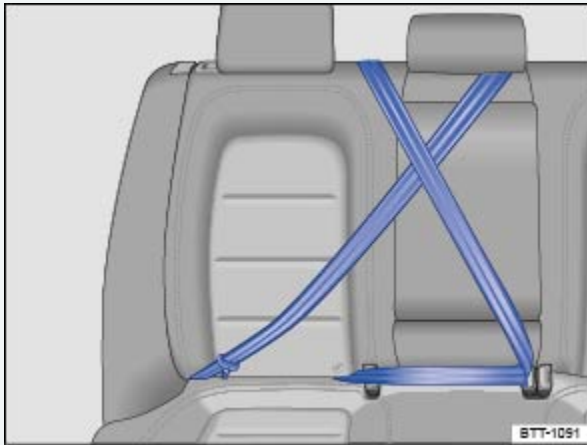

Fig. 76 Keep unused safety belts away from children in child restraints.
You must take special precautions when installing a LATCH/UCRA child restraint behind the front passenger or driver seats. Always route the center safety belt and the unused safety belt for the seating position where the child restraint is being installed securely out of the child's reach. Securing the safety belts will help prevent a child from playing with an unused safety belt and becoming entangled with it ⇒ Fig. 76.
- Buckle the safety belt ⇒ *Fig. 76*.
LATCH/UCRA lower universal anchorages behind the front passenger seat or behind the driver seat. Always route the center safety belt and the unused safety belt for the seating position where the child restraint is being installed securely out of the child's reach. Securing the safety belts will help prevent a child from playing with an unused safety belt and becoming entangled with it ⇒ Using a child restraint on the rear seat, ⇒ Fig. 76.
You must take special precautions when installing a child restraint with the vehicle safety belt or with LATCH/UCRA lower universal anchorages behind the front passenger seat or behind the driver seat. Always route the center safety belt and the unused safety belt for the seating position where the child restraint is being installed securely out of the child's reach. Securing the safety belts will help prevent a child from playing with an unused safety belt and becoming entangled with it ⇒ Using a child restraint on the rear seat, ⇒ Fig. 76.